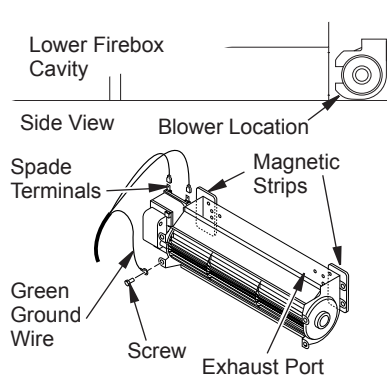

Figure 25 - Blower Model BK
1. Attach the power cord to the blower motor by firmly pushing the two female terminals at the end of the power cord onto the two spade terminals on the blower motor (see Figure 25).
2. Attach green ground wire from power cord to blower housing using screw provided (see Figure 25). Tighten screws securely.
3. Place the blower against the lower wall of the firebox outer wrapper with the exhaust port directed upward. The blower will fit inside the back opening and be held in position against the back wall by the magnets (see Figure 25).